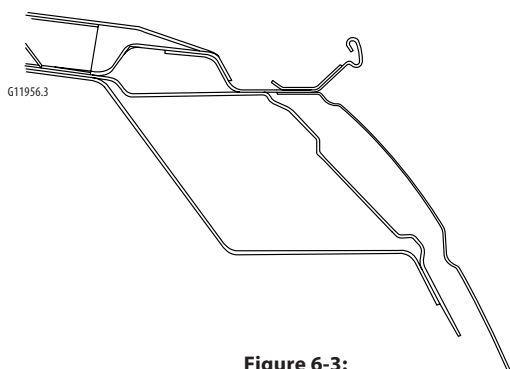

Figure 6-3:
1. Prepare mating surfaces and check for proper fit and alignment. It may be necessary to grind the lip remaining at the weld flange for a proper fit of the service roof panel (figure 6-3).